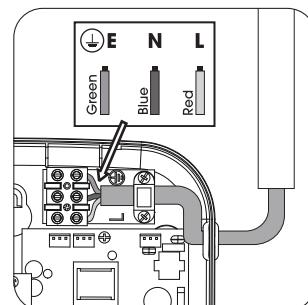

Fig. 4
2. Connect the cable to the Terminal Block as follows (Fig. 4):